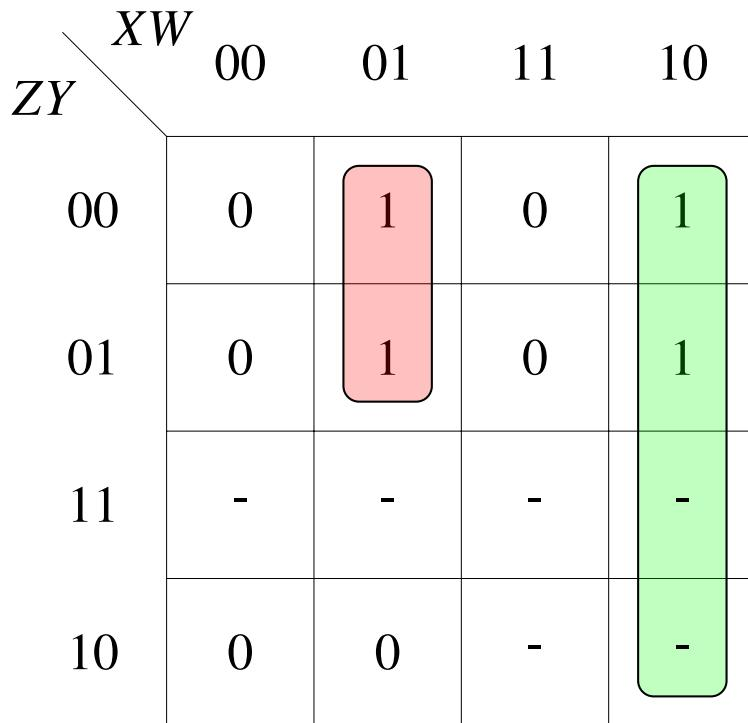

Fig. 4.6: K-map for B with don't cares
3. The revised K-map for B is available in Fig 4.6 Show that